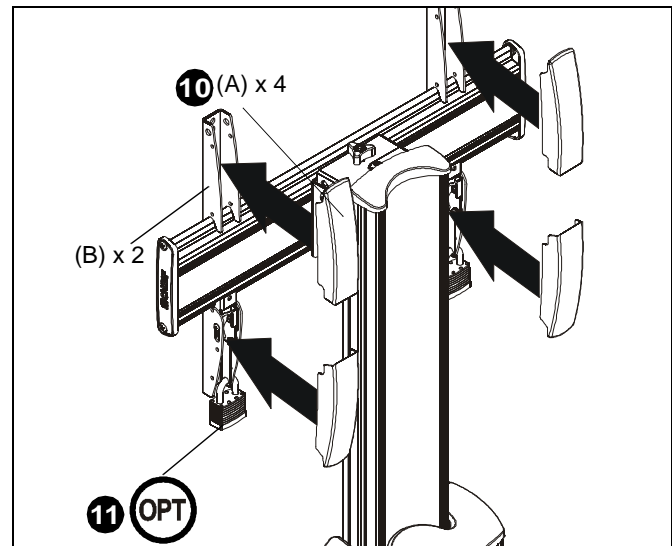

Figure 8
10. Snap four upright covers (A) onto uprights. (See Figure 8)
11. (Optional) Use padlocks (not provided) to secure uprights to head assembly. (See Figure 8)